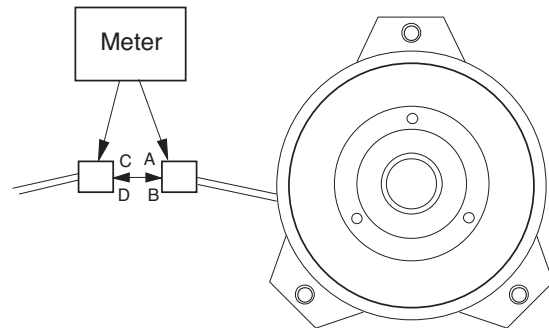

Figure 2
4. Connect one meter lead wire to one wire in clutch connector at A. (Figure 2)
5. Connect the other meter lead wire to the corresponding wire in the mating connector at C. (Figure 2)
6. Connect a short wire from D to B in both connectors. (Figure 2)